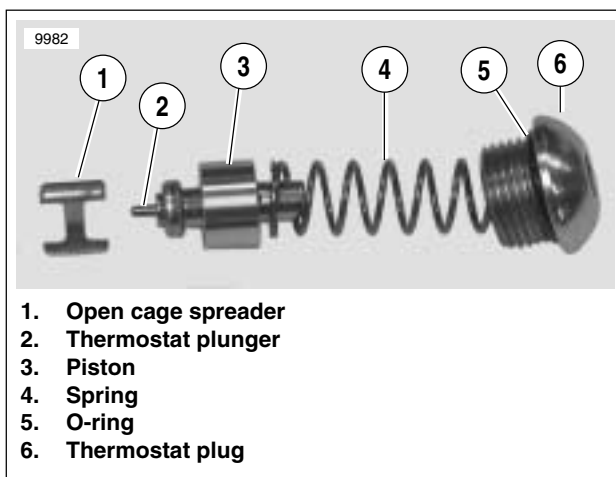

Figure 3-28. Thermostat Components
- See Figure 3-28. With a ball Allen wrench, loosen and remove the thermostat plug.
- See Figure 3-28. Insert the open cage spreader part way into thermostat chamber.